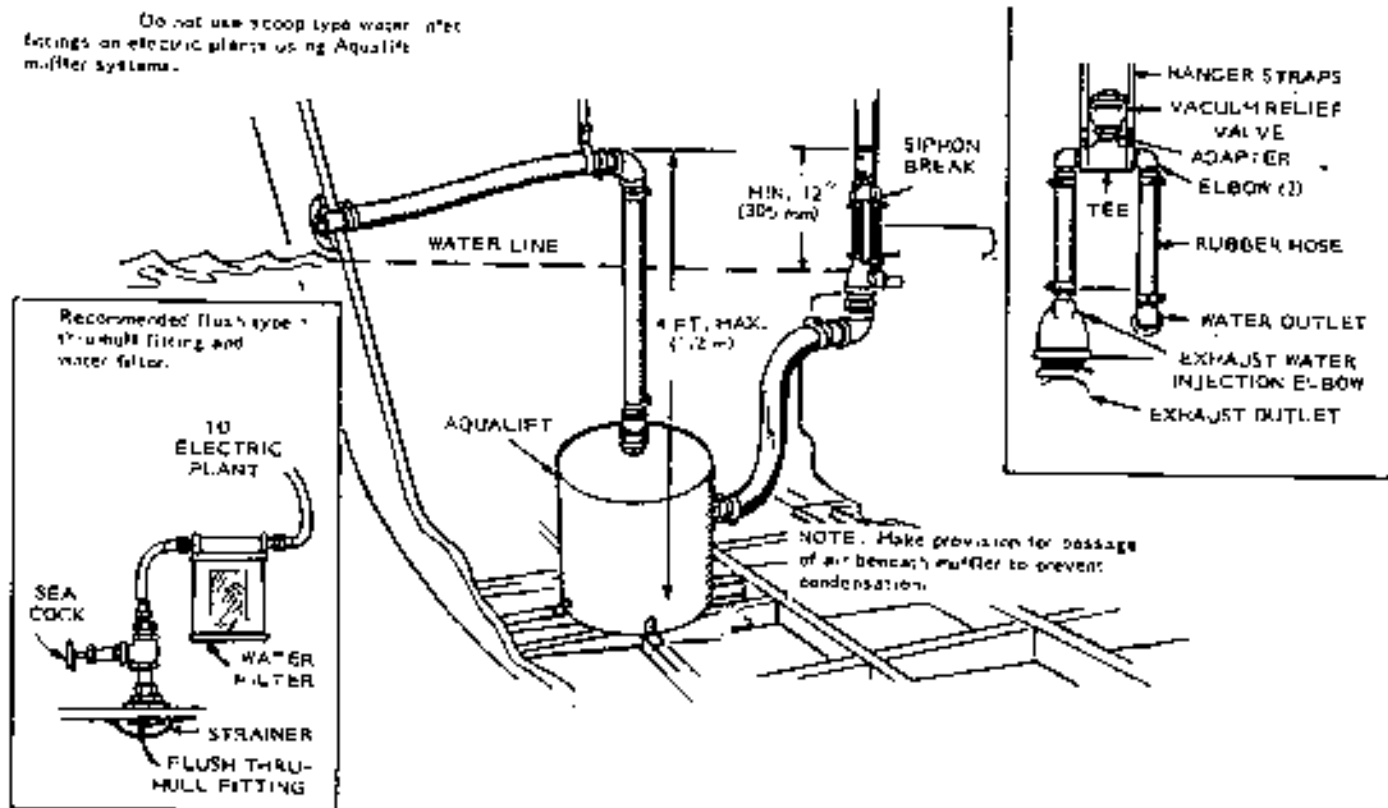

FIGURE 13-15. BELOW-WATER-LINE INSTALLATION
6. The distance from the base of the muffler to the upper elbow on the exhaust tubing from the muffler outlet must not exceed four feet (1.2 m), Figure 13-15.
7. A minimum drop of one foot (25.4 mm) is necessary between the upper elbow above muffler outlet and the exhaust outlet on the hull to prevent water from washing into the system (Figure 13-15).
CAUTION Install Siphon Break Kit 155-0950 if exhaust injection elbow is below water line. Locate the siphon break at least 12 inches (305 mm) above load water line and in a vertical position. Remote mounting of the siphon break is permissible within a five foot (1.5 m) radius of water injection exhaust elbow. Maintain vertical position and height of valve. See Figure 13-15 for typical below water line installation.